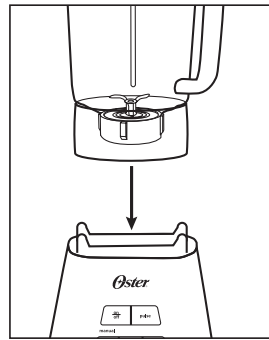

FIGURE 4
5. Place jar assembly onto base. (Figure 4)